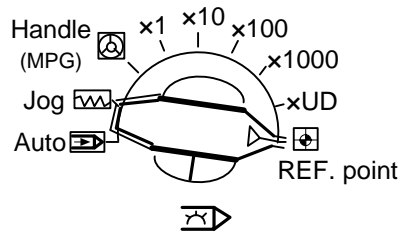

Fig. 1-8 Mode Selection Knob
- (1) USB interface with a protection cap is used for connection with removable flash disk.
- (2) E-stop switch. Anytime there is possible danger, operator can press E-stop switch to stop the machine to protect safety of both human and machine, and when danger is cleared, turn the switch in clockwise direction to remove the alarm.
- (3) Spindle override knob, which is used for spindle speed override adjustment. Refer to section 3.5 for details.
- (4) Feed override knob is used for feedrate override adjustment. Refer to chapter 3.10.1 for details.
- (5) Mode selection knob is as shown in Fig. 1-8. You can select from auto mode, jog mode and REF. point modes according to your actual needs.